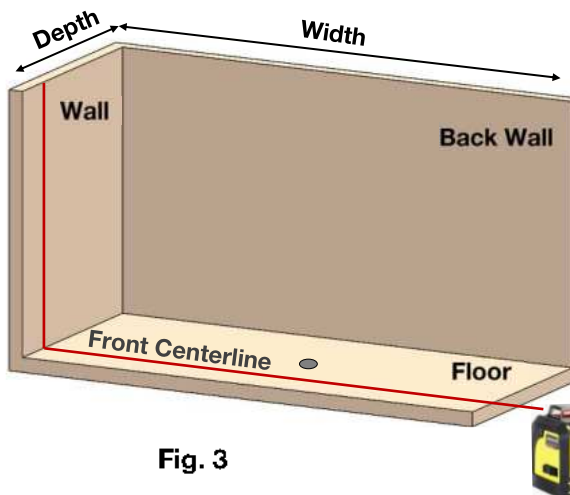

Fig. 3
- Check width of wall at the front centerline. Refer to layout drawing for dimension. *Note: The centerline of each toilet compartment must be measured from the front centerline and not at the back wall.* **Fig. 3**